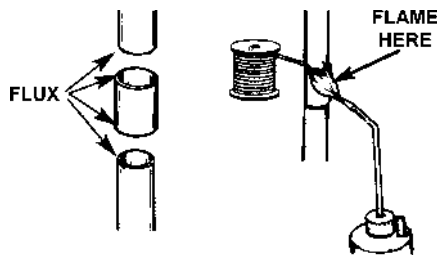

FIGURE 14
13. Flux the inside of the 90° elbow and the length of pipe to be run to an adequate drain, and solder them together. See Figure 14.